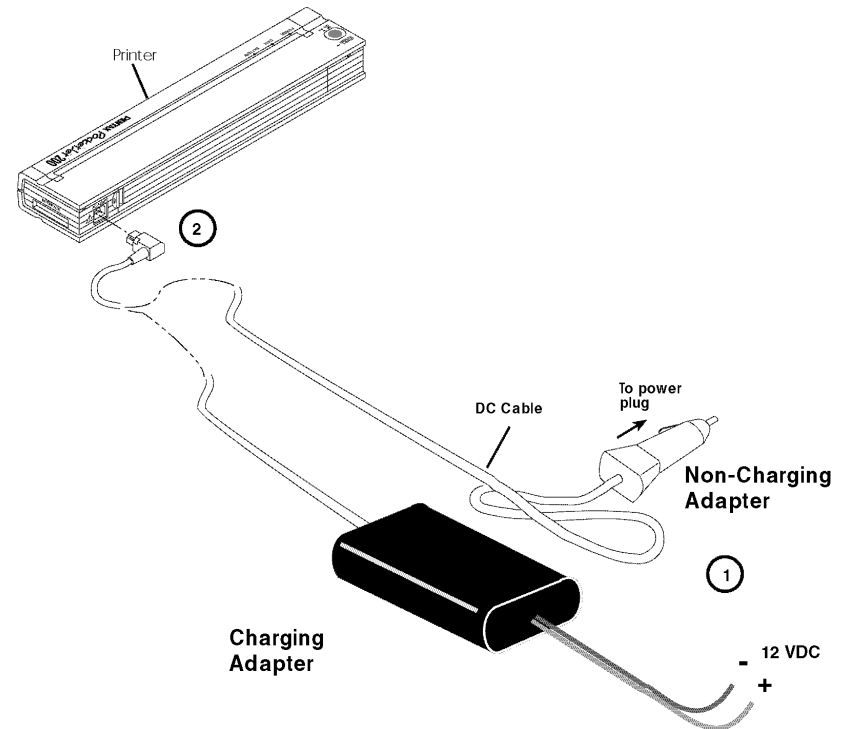

FIGURE 3. Connecting the printer to DC power
1. Connect an appropriate power adapter cord (either with a cigarette plug or direct wired) to the vehicle 12VDC supply as shown in Figure 3. (These items are available as options - See Chapter 8 - Ordering)